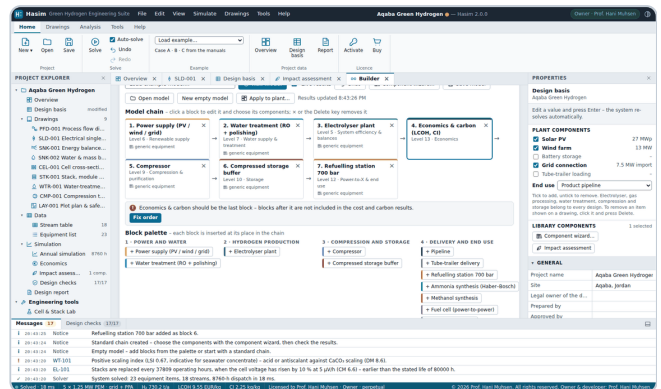

Figure S.10 – Order checks with Fix order.
- The order checks below the chain explain every problem – for example a block before the electrolyser that receives no hydrogen. **Fix order** sorts the chain into flow order (Figure S.10).